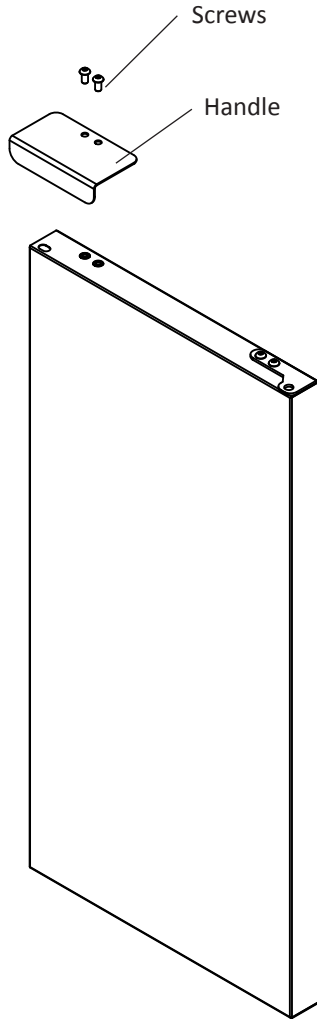

Figure 5
1. Remove the handle, (2) screws, and 5/32" hex key wrench from the bag shipped inside the cabinet.
2. Locate handle opposite the hinges and secure in place using the (2) screws and the hex key wrench. (See Figure 5).